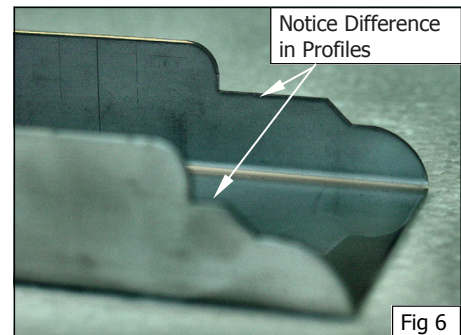

Fig 6
- a. Remove all the trivet supports from the top of the appliance. Note the orientation of the trivet support when removing. The trivet support front end side rail profiles are different from the rear end side rail profiles. (See the Note shown at Item a, in 'Re-Fitting the Components to the Range' on the following page and Fig 6).
NOTE: It is imperative that the trivet supports are correctly re-fitted to the unit to ensure that the trivets locate correctly and sit flush and level. NOTE that the trivet support front end side rail profiles are different at either side (Refer to Fig 6) and only one of the side rails seat into the cut-out in the range, whereas the rear end of the trivet support side rail profiles are the same and have 2 locating cut-outs.